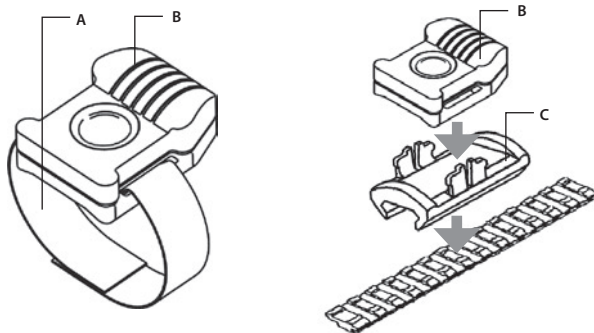

FIGURE 3-7. ADVANCED WIRELESS REMOTE CONTROL
Using Velcro tape (A), fasten the Advanced Wireless Remote Control (B) (Figure 3-7) to your weapon in an easily accessible place (e.g., on the front of the rifle stock), preferably on the same side as the Vulcan's control compartment.